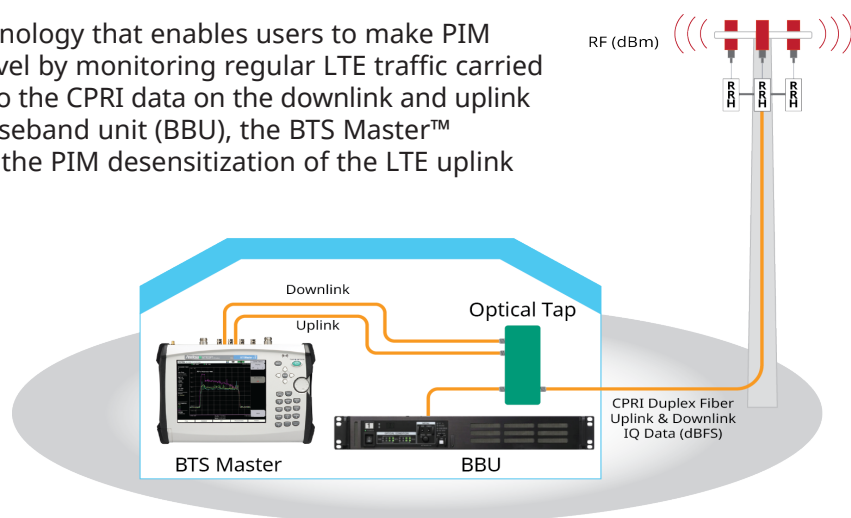
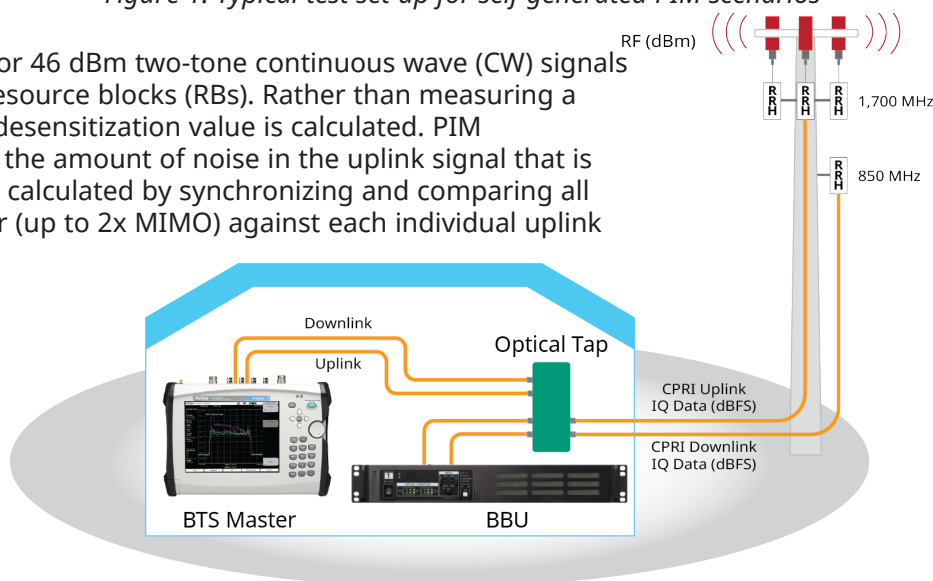

Figure 1: Typical test set-up for self generated PIM scenarios
Figure 2: Typical set-up to measure harmonic PIM, in this example a 850 MHz download generating PIM in a 1,700 MHz uplink
PIM over CPRI is Anritsu's new patented technology that enables users to make PIM measurements on a live system at ground level by monitoring regular LTE traffic carried by an optical fiber connection. By tapping into the CPRI data on the downlink and uplink between the remote radio head (RRH) and baseband unit (BBU), the BTS Master™ MT8220T base station analyzer can calculate the PIM desensitization of the LTE uplink (see Figure 1). This measurement technique tests real-world PIM scenarios, such as self-generated PIM (caused when multiple 15 kHz subcarriers in a single LTE signal mix and create PIM in its own uplink band) as well as 2nd and 3rd order harmonics (e.g., 850 MHz downlink interfering with the 1700 AWS uplink or the 900 downlink interfering with the 1800 uplink). See Figure 2.
- For a single-carrier measurement, connect the optical tap to the BBU per the CPRI RF configuration diagrams, where the fiber connection removed from the BBU goes into port A (from RRH) on the optical tap (see Figures 1, 4, and 5).
- For a multi-carrier measurement, connect the optical taps to the BBU per the CPRI RF configuration diagrams, where the fiber connection removed from the BBU goes into port A (from RRH) of the appropriate optical tap (see Figures 2 and 5).
- Run a duplex fiber from port B on the optical tap(s) back to the BBU. As there is now a complete connection between the RRH and BBU, the radio can now be unlocked and normal traffic flow will start (see Figures 1, 3, 4, and 5).